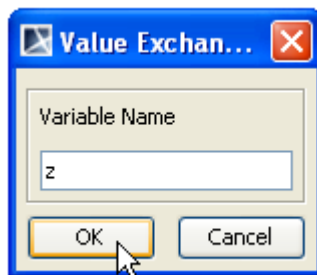

Figure 101 -- Value Exchange Dialog
1. Right-click the slot to which you will export a value and select **Import Value from Engine**. The **Value Exchange** dialog will be open (Figure 101).